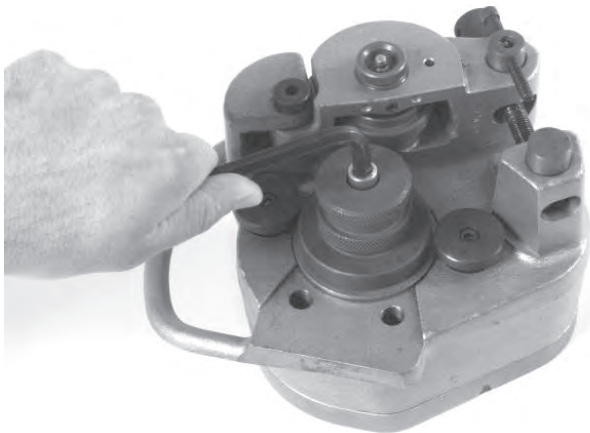

Figure 8 – Removing Hex Screw from Drive Roll
3. Remove the hex screw retaining the drive roll with a $\frac{5}{16}$ " hex key (Figure 8). If using the 8" – 12" or 4" – 6" rollset, remove the drive roll support bolts with a $\frac{3}{8}$ " hex key.